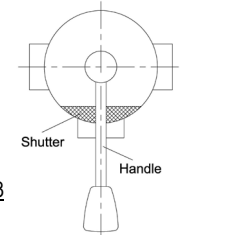
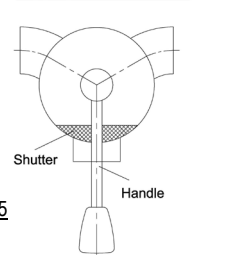

Fig. 3
Fig. 5
- With the manual 3-way arc / pigging valve, the handle direction indicates the shutter position (see Figure 3 and Figure 5)